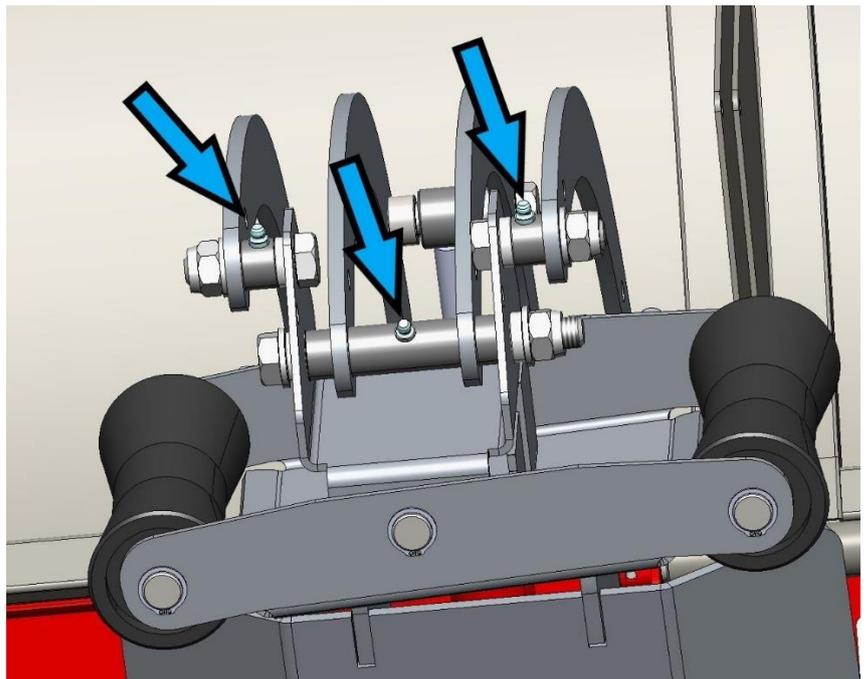

Figure 47.
7. Grease nipples of the log press (3 pcs, Figure 47).